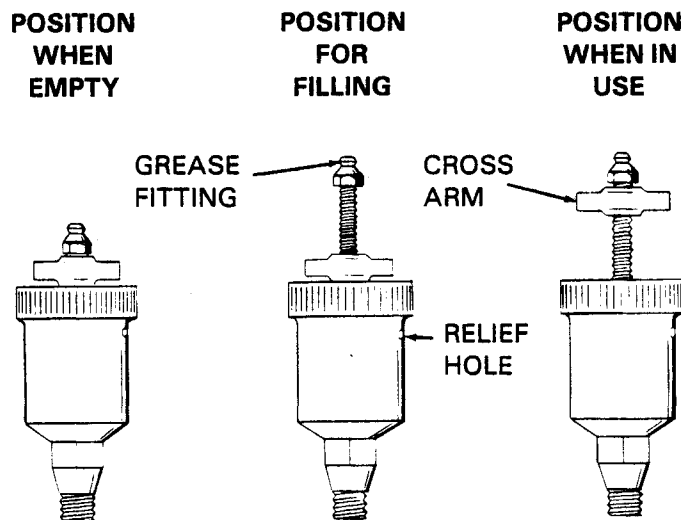

Figure 3. Automatic Self-lubricating Grease Cup
Before removing the seal assembly, turn the cross arm on the seal grease cup (21) clockwise until it rests against the cover (see figure 3). This will prevent the grease in the cup from escaping after the seal is removed.
Before starting the pump, fill the seal grease cup through the grease fitting with a good grade of No. 2 pressure gun grease until grease escapes from the relief hole. Turn the grease cup arm counterclockwise until it is at the top of the seam; this will release the spring to apply grease to the seal (see figure 3).